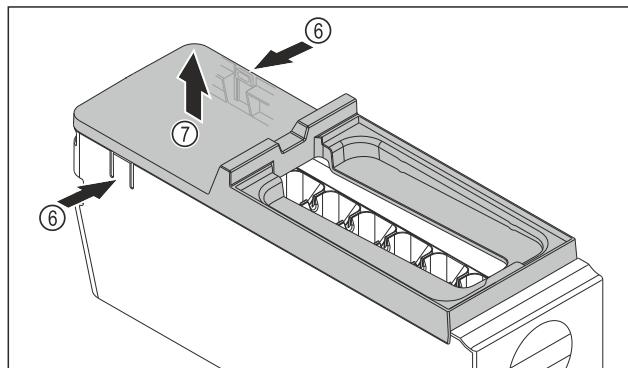

Fig. 125
- Removing the EasyTwist-Ice body cover: Push the tabs Fig. 125 (6) on both sides of the EasyTwist-Ice body with one hand.
- Use the other hand to remove the cover Fig. 125 (7) upwards.